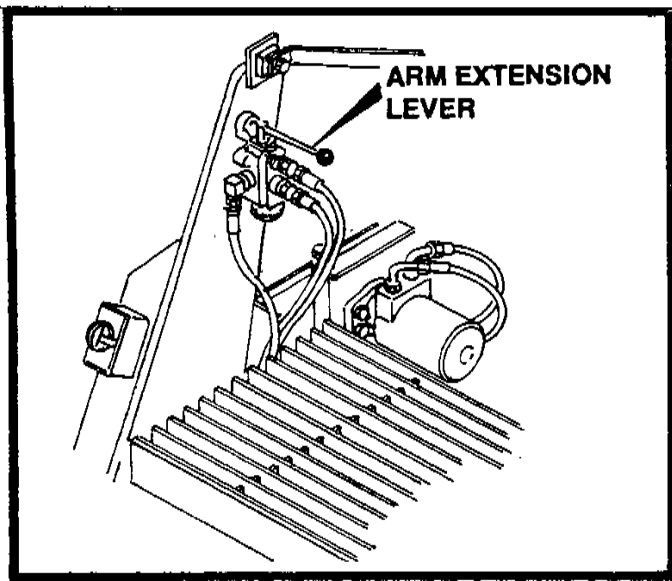

FIGURE 6
1. To connect truck hitch to rear of asphalt truck, extend the arm extensions of the truck hitch by pulling on arm extension-lever. See figure 6.